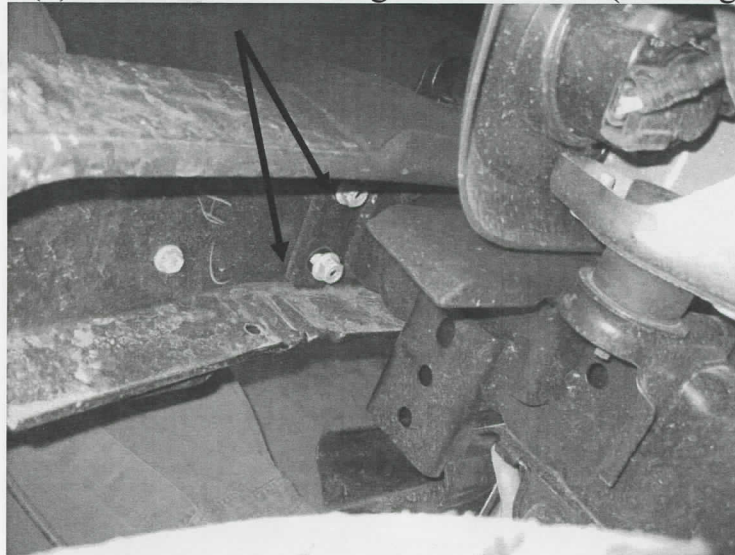

Figure 1
1. Remove (4) dart clips from underside of OEM grille/skid plate.
2. Remove (2) dart clips from back side of plastic skid plate.
4. Remove (8) nuts from studs using 18mm socket. (Ref. Figure 1)